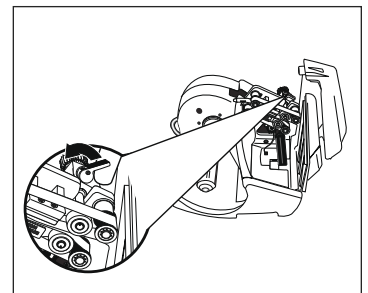

Figure 18
3. Lift belt release lever to loosen seal belts. (See Figure 18)